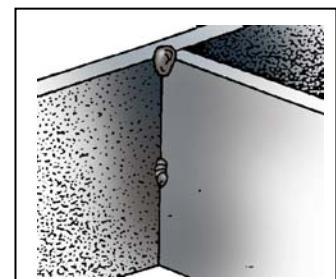

Figure 1
5. Tack weld the pieces together at a 90-degree angle, leaving approximately a $1/16$ -in. gap between the pieces. Refer to Figure 1.